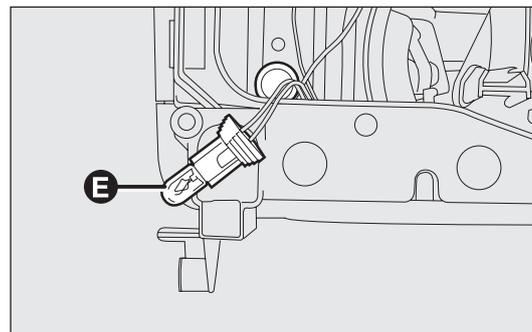

fig. 143
- remove the burnt bulb E-fig. 143 and fit the new one;